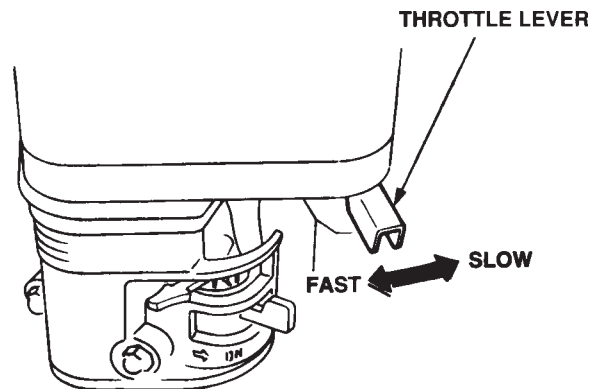

Figure 14. Throttle Lever
4. Place the **throttle lever** (Figure 14) halfway between **fast** and **slow**.
1. Place the **throttle lever** (Figure 14) in **slow** position, and listen for the engine speed to decrease.